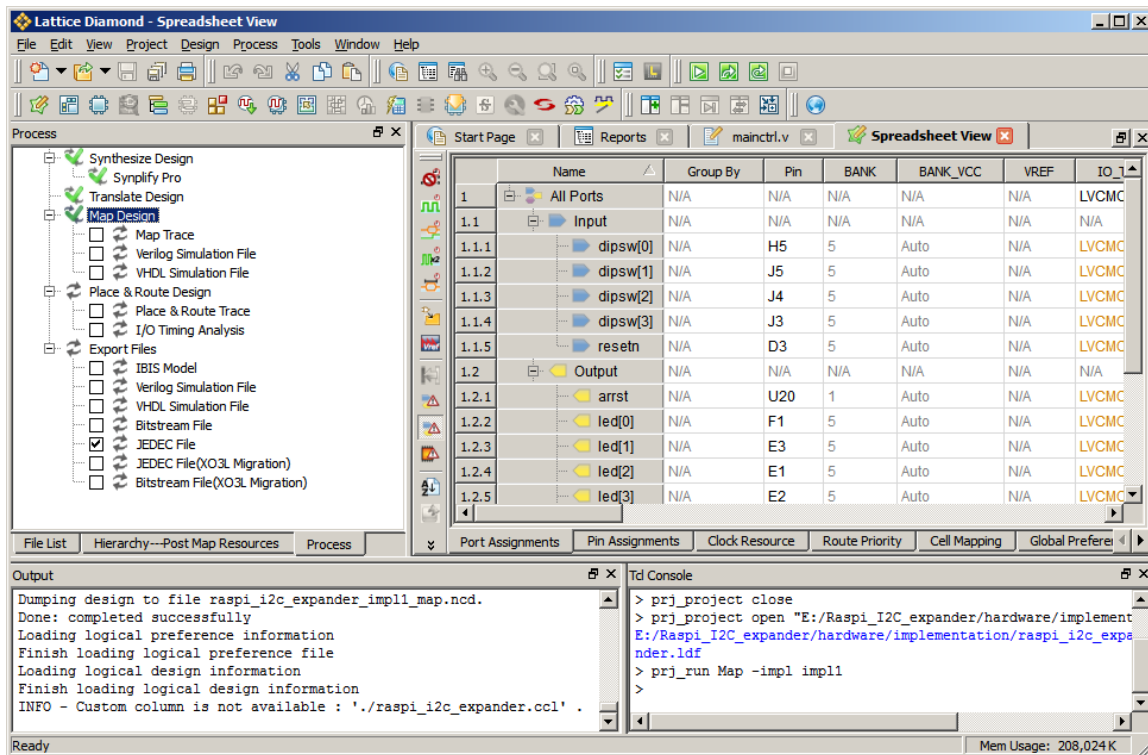

Figure 12.4. Assigning the Newly-added Ports to VERSA Connectors
- Change to choose to open the Process tab from the left-side of the Lattice Diamond GUI. Double click the **Map Design** process (Figure 12.4). Assign pins for the newly-added ports to VERSA connectors reserved for users on the board. Save the changes.